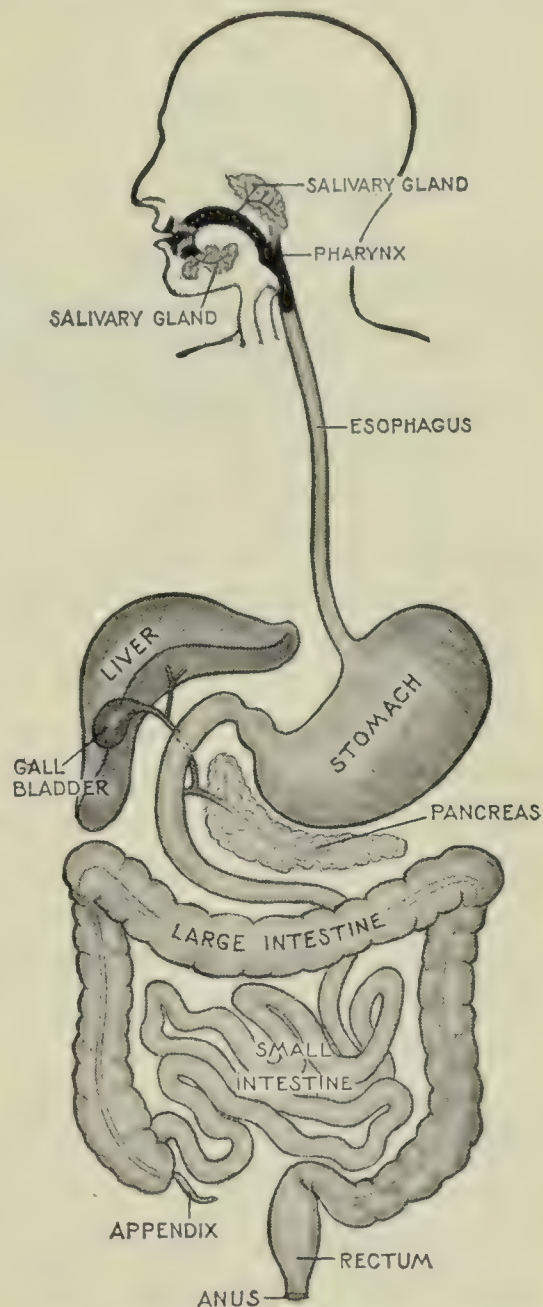

FIG. 118. The digestive system
WHAT IS THE STRUCTURE OF THE DIGESTIVE SYSTEM? A map of any system of the body is very helpful in understanding its work, just as a road map is helpful in finding your way about in a car. However, you must remember that a map does not show all the details. Figure 118 is a map of the digestive system. Notice that the main part of the digestive system is a tube that goes from the mouth to the *anus* at the lower end of the body. The food tube is much longer than the body. In an adult person it is about thirty feet long. So part of it is coiled inside the abdomen.
3. Make a list of the glands that pour digestive chemicals into the food tube. Study Figure 118 for help in answering.
**H**OW DOES THE DISSOLVED FOOD GET INTO THE BLOOD? The dissolved food soaks into the lining of the small intestine almost as fast as it is digested. In order to take in the food so rapidly, the intestine must be well fitted for this work. In several ways the intestine is well fitted for rapidly absorbing the food: (1) It has a very thin lining. (2) It contains a great many capil-